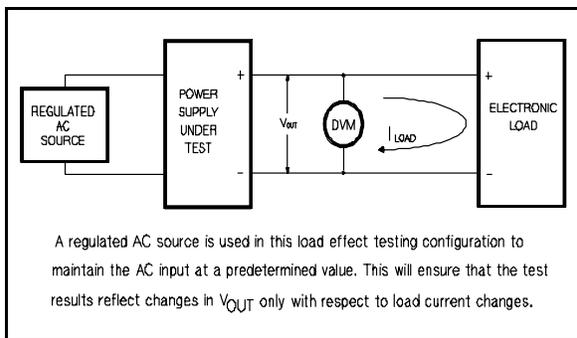

Figure A-7. Basic Test Setup
- Connect the test equipment across the output of the V1 supply as shown in Figure A-7. Operate the electronic load in constant current mode and set its current to 1.000 A.
- Connect the test equipment across the output of the V1 supply as shown in Figure A-7, but replace the DVM with the oscilloscope. Operate the electronic load in constant current mode.
- Connect the test equipment across the output of the V1 supply as shown in Figure A-7.